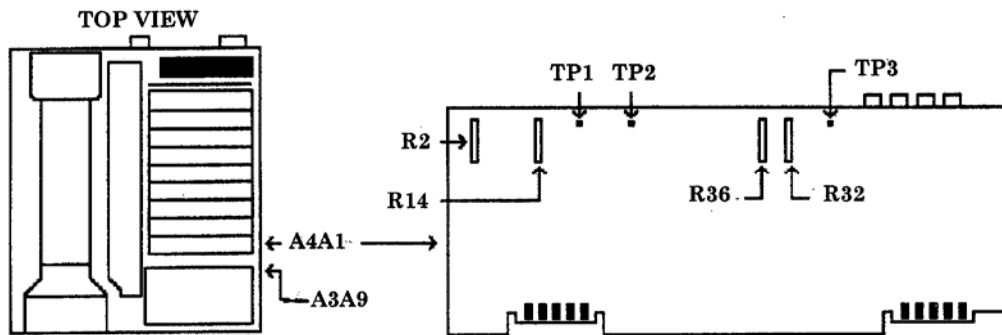
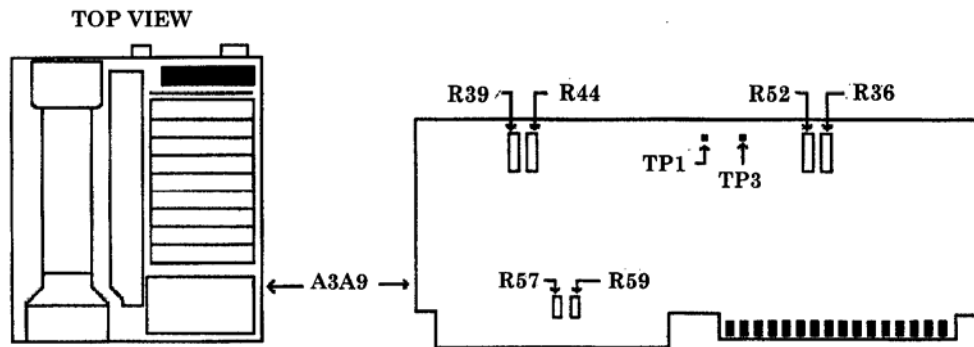

Figure 21. A4A1 board.
Figure 22. A3A9 board.
- (1) Set TI **LINE** switch to **STANDBY**.
- (2) Remove TI top cover.
- (3) Remove cables attached to the A3 digital storage cage.
- (4) Remove digital storage cage cover.
- (5) Reconnect cables to digital storage cage removed in (3) above.
- (6) Connect TI **RF INPUT** to TI **CAL OUTPUT** through attenuator No. 2.
- (7) Set TI **LINE** switch to **ON**.
- (8) Press TI **2-22 GHz** key.
- (9) Connect multimeter **HI** to A4A1TP1 (fig. 21) and multimeter **LO** to A3A9TP1 (fig. 22).
- (10) Press TI keys as listed in (a) through (c) below:
- (11) Set attenuator No. 2 to 120 dB. Multimeter indication should be  $0.000 \pm 0.001$  V dc (R).
- (12) Connect multimeter **HI** to A4A1TP2 (fig. 21).
- (13) Adjust A4A1R14 (fig. 21) for a multimeter indication of  $-5.000 \pm 0.003$  V dc (R).
- (14) Connect multimeter **HI** to A4A1TP1 (fig. 21).
- (15) Set attenuator No. 2 to 0 dB.
- (16) Press TI **REFERENCE LEVEL** key.
- (17) Adjust TI **DATA** knob for a multimeter indication as close to  $1.000 \pm 0.001$  V dc as possible. (It may be necessary to slightly adjust the TI **AMPTD CAL** control to achieve required tolerance).
- (18) Press TI **SCALE LOG, 1, dBm** keys.
- (19) Connect multimeter **HI** to A4A1TP3 (fig. 21) and multimeter **LO** to chassis.
- (20) Adjust A4A1R14 (fig. 21) for a multimeter indication of  $2.000 \pm 0.010$  V dc (R).
- (21) Set attenuator No. 2 to 120 dB.
- (22) Adjust A4A1R32 (fig. 21) for a multimeter indication of  $0.000 \pm 0.001$  V dc (R).
- (23) Press TI keys as listed in (a) through (f) below:
- (24) Set attenuator No. 2 to 40 dB.
- (25) Connect multimeter **HI** to A4A1TP1 (fig. 21). Record multimeter indication.
- (26) Press TI **REFERENCE LEVEL, 60, -dBm** keys.
- (27) Adjust A4A1R2 (fig. 21) for a multimeter indication  $0.100 \pm 0.001$  V dc greater than the indication recorded in (25) above (R).
- (28) Press TI **REFERENCE LEVEL, 70, -dBm** keys.
- (29) Multimeter indication should be  $0.200 \pm 0.002$  V dc greater than the indication recorded in (25) above. If not, readjust A4A1R2 (fig. 21).
- (30) Press TI **REFERENCE LEVEL, 90, and -dBm** keys.